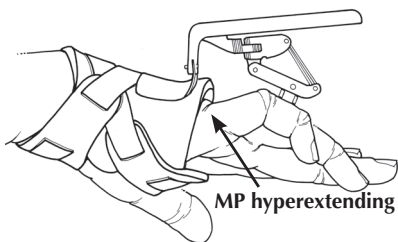

Fig. 11
Some patients with PIP flexion contractures may also hyperextend at the knuckle (MP) joint. When the MP joint goes backwards (Fig. 11), some of the extension force at the PIP joint is lost. To control MP hyperextension, an MP Flexion Strap is included. Use this strap only on the direction of your surgeon or hand therapist.